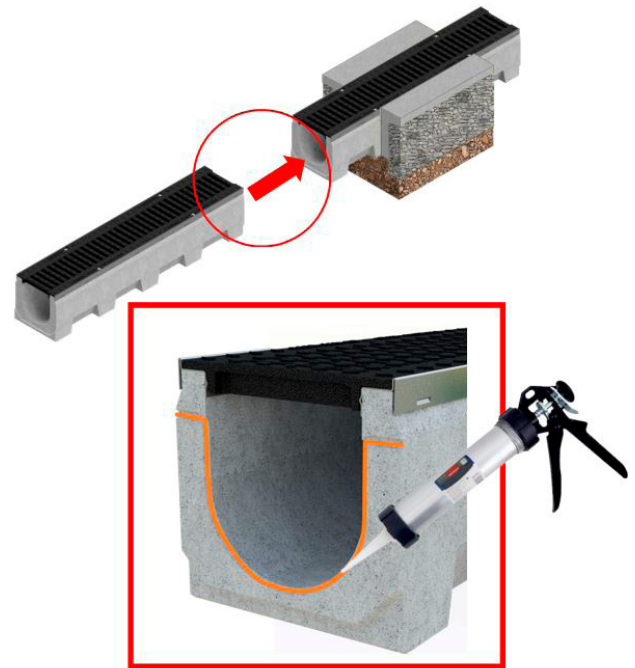

Figure 2
- Channels are equipped with a male/female joint, apply sealant to the appropriate slot in the male joint (see Figure 2).